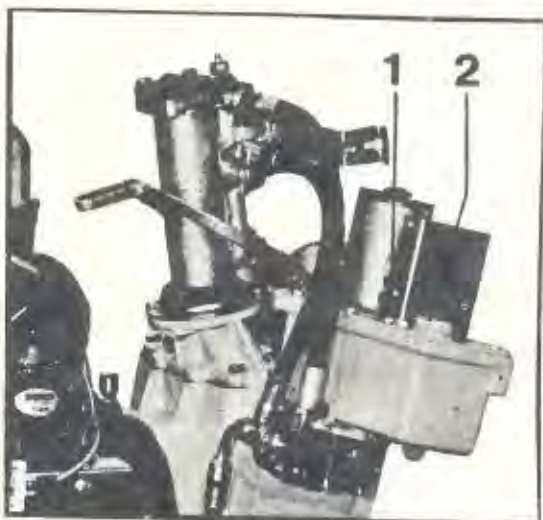

Fig. 9. Hydraulic tank
**Check the oil level in the hydraulic pump every 14 days** by using the dipstick (1, Fig. 9) on top of the tank. Observe great care when carrying out this check that no foreign particles drop down into the tank.
When necessary top up through the oil filler hole (2, Fig. 9) to the correct level with oil which meets the requirements for "Automatic Transmission Fluid Type F". The designation for the oil is ATF Type F, or in cases of exception, Type A or Dexron, if Type F is not available. **NOTE. Ordinary engine oil must not be used.**